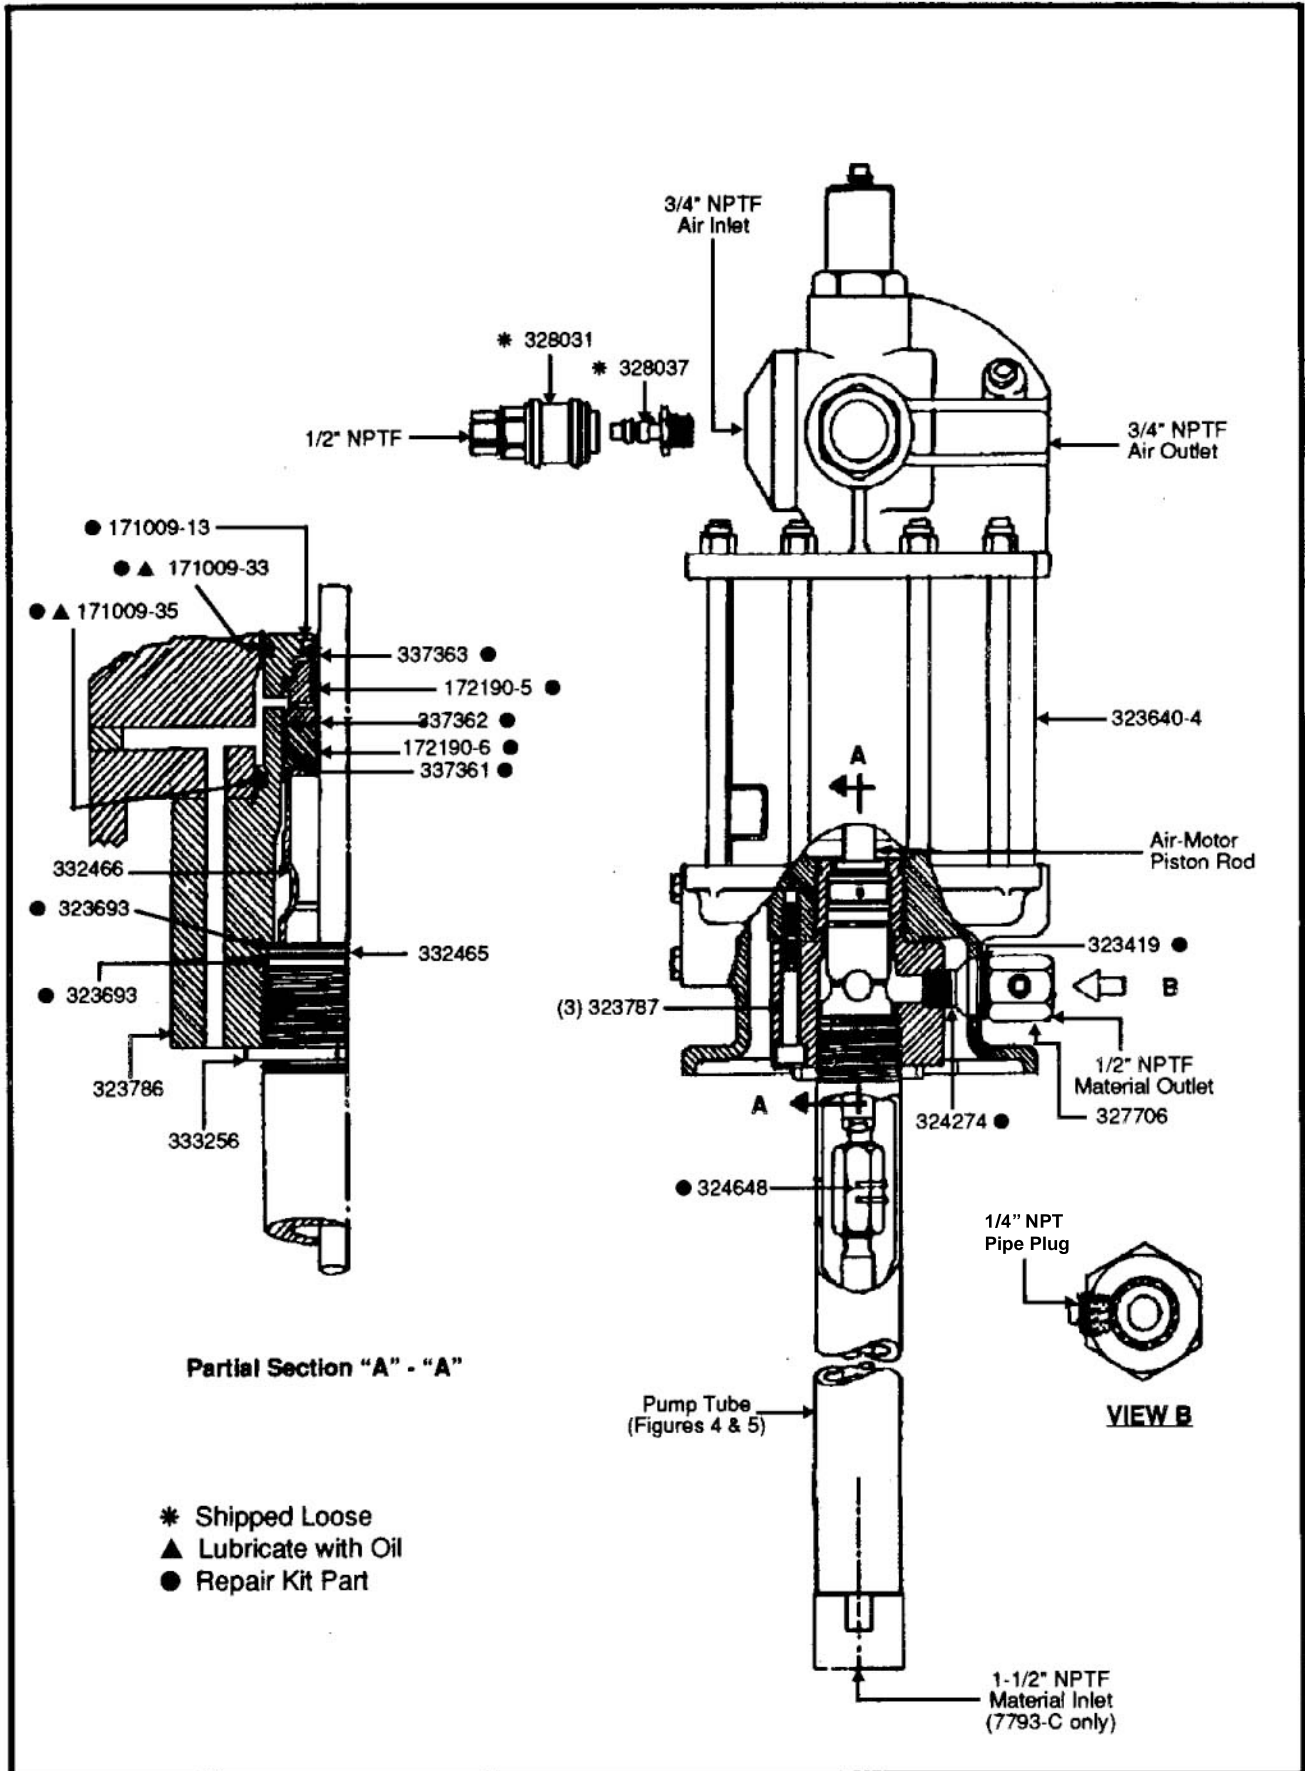

Figure 2: Series 7793 Low Pressure Pump
1. Thread male adapter 328037 into air inlet of air motor (Figure 2).
3. If unit is equipped with eyebolt, remove pipe plug from top of air motor and replace with eyebolt (if necessary for lifting purposes) (Figure 2).
(Figure 2)
1. Unscrew and remove adapter 327706 from body of air motor assembly 323640-4 (Figure 2).